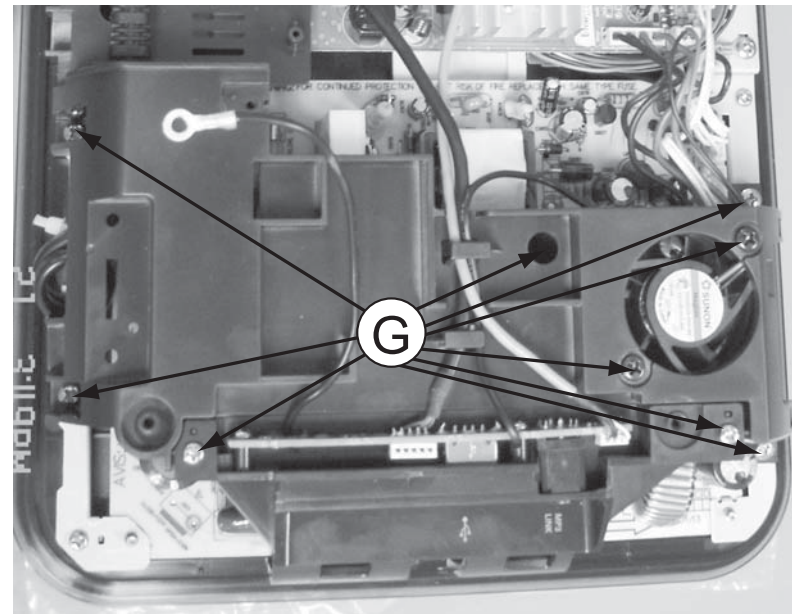

Figure 8
- 2) Loosen 9 screws "G" to remove DVD fan bracket&fan&USB bracket as shown in figure 8.